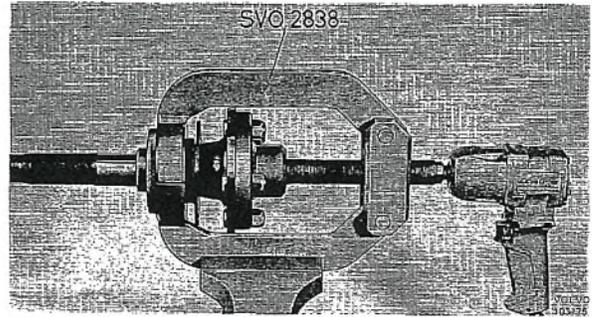

Fig. 4-128. Removing drive shaft bearing
4. Secure press tool 2838 in a vice. Secure the drive shaft to the spindle plate. Screw in the spindle so that the tool arms can be placed against the bearing, see Fig. 4-128. Screw out the spindle and press off the bearing and lock ring. Remove the oil seal.